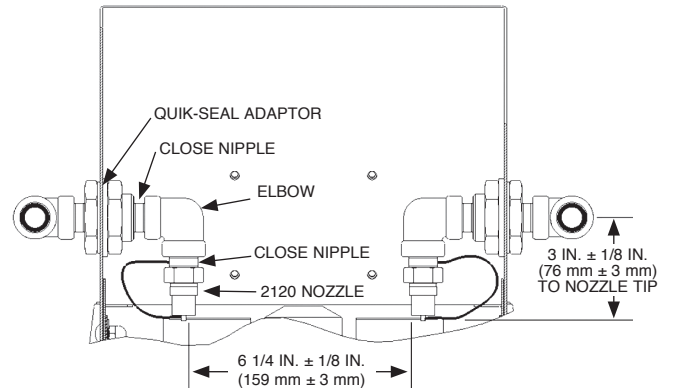
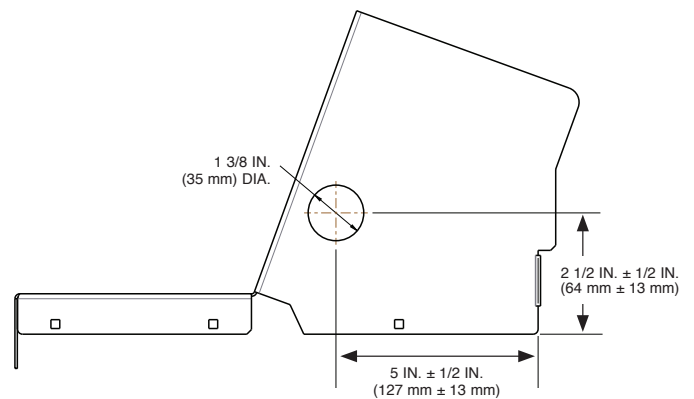

FIGURE 4-83
FIGURE 4-84
- ▶ • The 3/8 in. “Quik-Seal” mechanical bulkhead fitting adaptor (Part No. 77285) must be used for the connections through fryer cover. See Figure 4-83 for front view nozzle locations. See Figure 4-84 for side view nozzle locations of the “Quik-Seal” bulkhead head fitting.